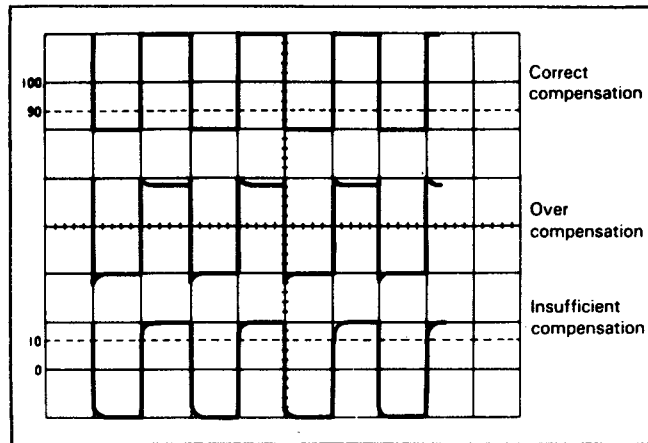
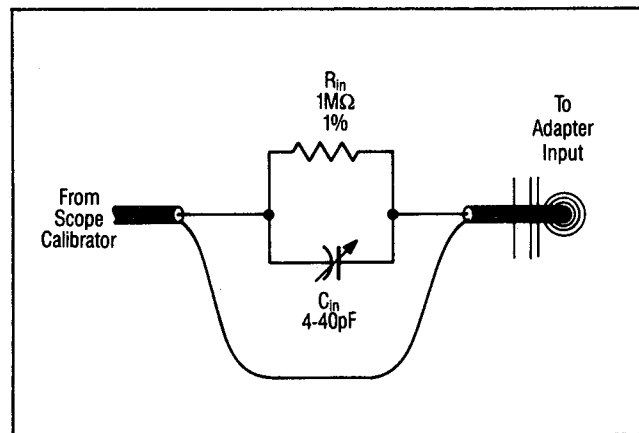

Fig. 17. Proper Input Compensation.
Fig. 18. Network For Input Capacitance Adjustment.
8. Adjust C104 for the same waveform as obtained in step 4 (as shown in Fig. 17).
9. Connect the oscilloscope calibrator output to the CH 2 input through the dummy probe circuit shown in Fig. 18. Using a "T" connection also connect the calibrator directly to the CH 1 input to keep the display constantly "refreshed". The dummy probe circuit provides isolation between CH 1 and CH 2 to avoid capacitance loading of CH 2 during this adjustment.
12. Adjust C204 for the same waveform as obtained in step 9 (as shown in Fig. 17).
14. Adjust C202 for the same waveform as obtained in step 9 (as shown in Fig. 17).
- Adjust C103 for the best square wave presentation (as shown in Fig. 17).
- Adjust C105 for the best square wave presentation (as shown in Fig. 17).
- While observing the 5 to 6 vertical divisions of waveform, adjust C205 for the best square wave presentation (as shown in Fig. 17).
- Adjust C203 for the best square wave presentation (as shown in Fig. 17).
- Set the oscilloscope calibrator for a 1 kHz square wave and connect it to the **CH 1** input through a $1\text{ M}\Omega \pm 1\%$ resistor in parallel with a 4-40 pF variable capacitor (as shown in Fig. 18).
- Adjust the calibrator output level for 5 divisions amplitude and set the Adapter **TRIGGER (CH 1) LEVEL** control for a stable display. Adjust the variable capacitor in the load (shown in Fig. 18) for the best square wave presentation (as shown in Fig. 17).
- Adjust C102 for the same waveform as obtained in step 4 (as shown in Fig. 17).
4. Check the oscilloscope for a stable display with 5 divisions of amplitude on both channels. Check for good quality square wave presentation (as shown in Fig. 17) and adjust the oscilloscope if necessary.
6. Check the oscilloscope for a stable display with 5 divisions of amplitude on both channels. Check for good quality square wave presentation (as shown in Fig. 17) and adjust the oscilloscope if necessary.